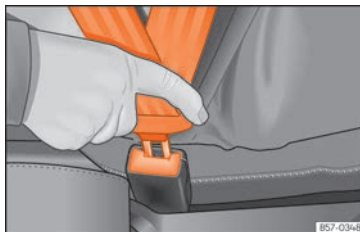

Fig. 14 Insert the latch plate of the seat belt into the buckle.
- Engage the latch plate in the buckle of the corresponding seat » **Fig. 14.**